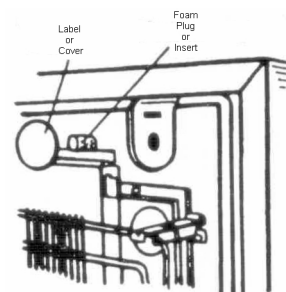
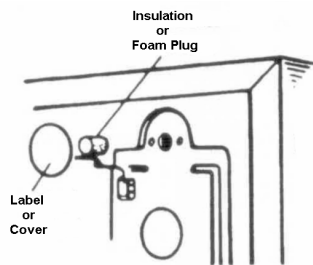
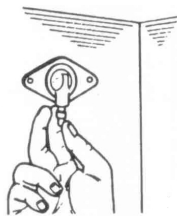

Figure 6
Figure 7
Figure 8
4. Looking at the back of the refrigerator, for external condenser coil models see Figure 6, for smooth back or external wiring models see Figure 7. **SAFETY! For external condenser models, cover the wire grid along the top with card board or cloth to protect you from cuts and scrapes.** If you have an external condenser coil, you may need to loosen the right side mounting clips to route the water fill tubing and to attach the fill tubing mounting clips. **Caution, be careful with the coil if you have to move it, damage can occur to the cooling system.**
5. Locate the inlet cover for icemaker installation, for external condenser coils see Figure 6, for smooth back models see Figure 7. The inlet cover may have a plug or a label covering the inlet opening. If it is a plug, gently remove the plug with a putty knife or screwdriver. If there is a label, there will be a "cut here" pattern, using a sharp knife to cut as directed on the label. Remove the underlying insulation using needle nose pliers. Fold cut label into opening to clear opening. If there is an existing water inlet tube, remove the insulation plug (see Figure 8) before proceeding.